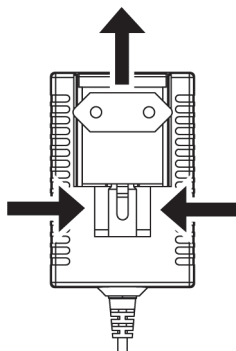

Fig. 3.6 PS4: Changing the AC line plug adapter
3. Slide a different AC line plug adapter into the slot (see Fig. 3.6).